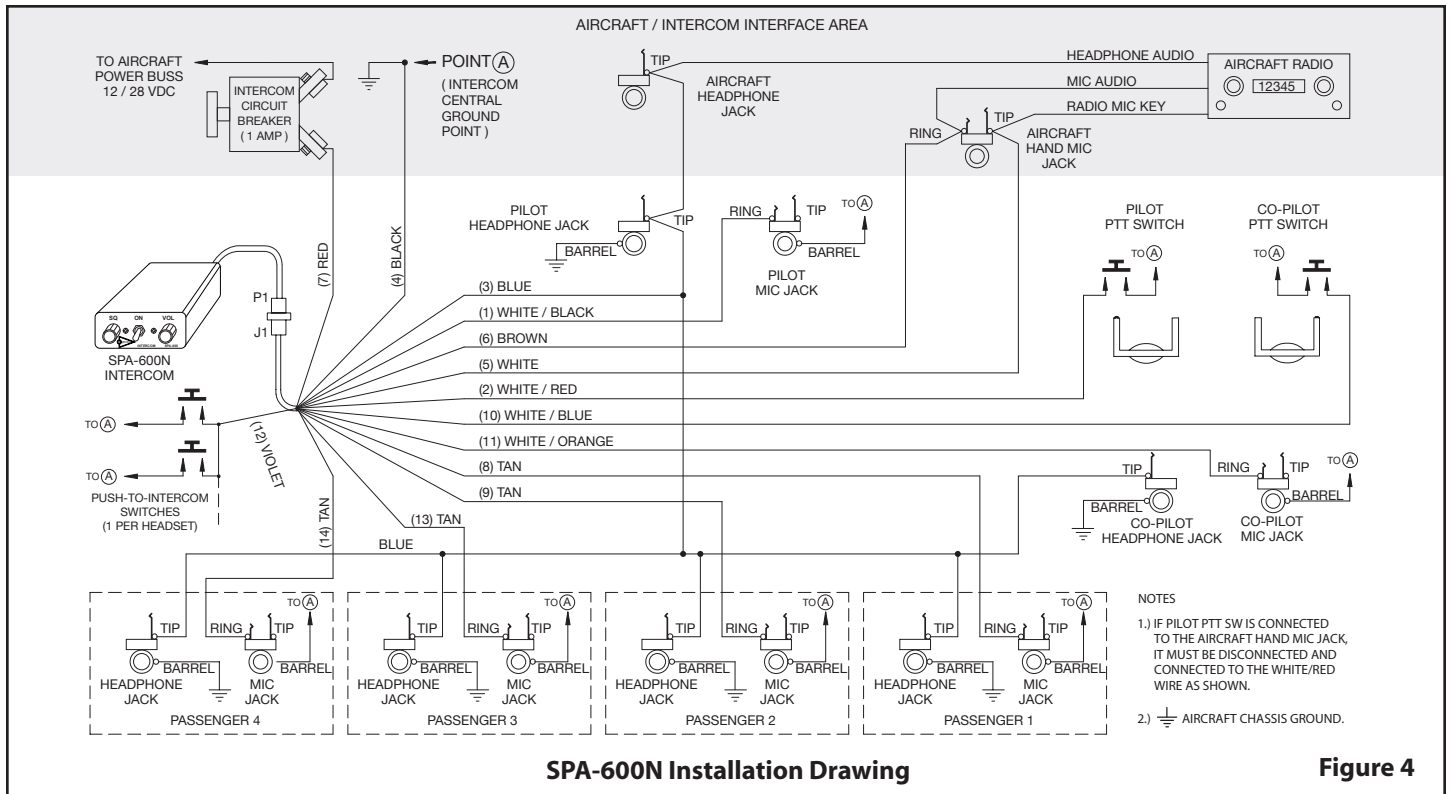

Figure 4
Connections should be made as shown in Figure 4 and indicated in Table 1
- *C. Connect all intercom mic jack grounds to Point A as shown in Figure 4. (Use black washers supplied to insulate intercom mic jacks from aircraft chassis ground).